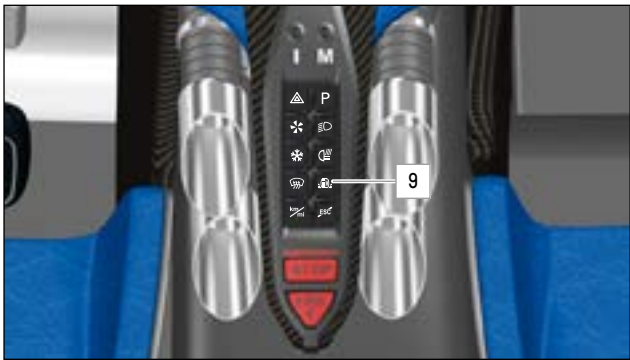

FIG.87 WET TIRES BUTTON ON THE CENTRE CONSOLE
- ▶ Press button **8** (>> Fig.87) when stopped to activate Wet Mode. Do not attempt to activate Wet Mode while in motion.